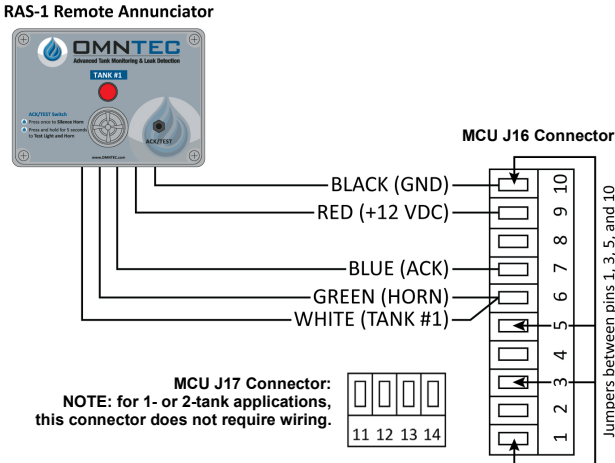

Figure 1.3.1
A. Common High-Level Alarm Wiring (refer to Figure 1.3.1 and Table 1.3.1)